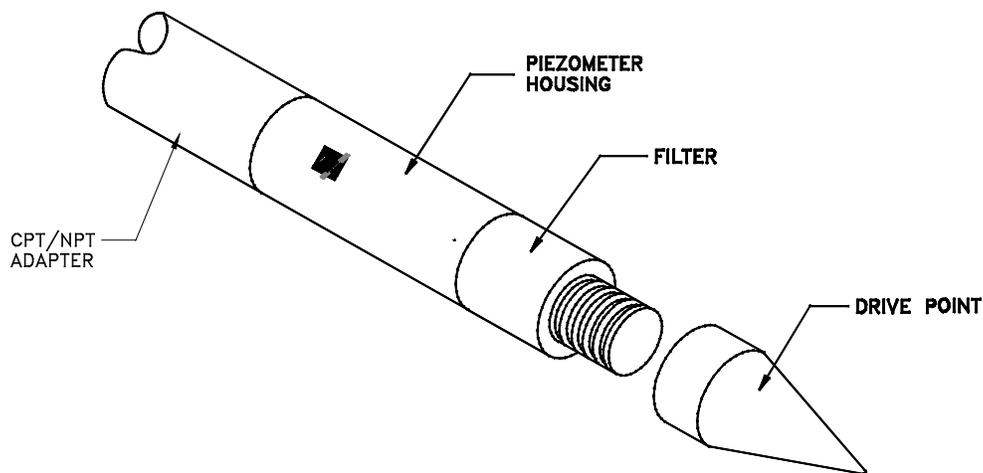

Figure 3 – Unscrew the drive point
Caution must be exercised when installing a piezometer using the push-in method. As the piezometer is pushed through the soil, temporary changes in pore water pressure can occur around the piezometer. If these pore water pressures exceed the range of the instrument, permanent damage to the instrument can occur. It is recommended that piezometer readings be taken continuously as the instrument is being pushed in, and the rate of pushing be based on the readings. The RST P-102-SS has its filter located on the side of the instrument (Figure 3) which helps avoid over ranging of instrument during installation.
3. Unscrew the drive point of the piezometer, so that water can flow freely into the piezometer (Figure 3).